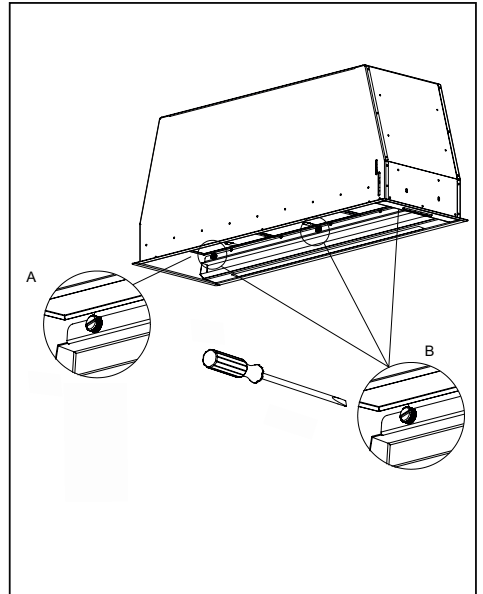
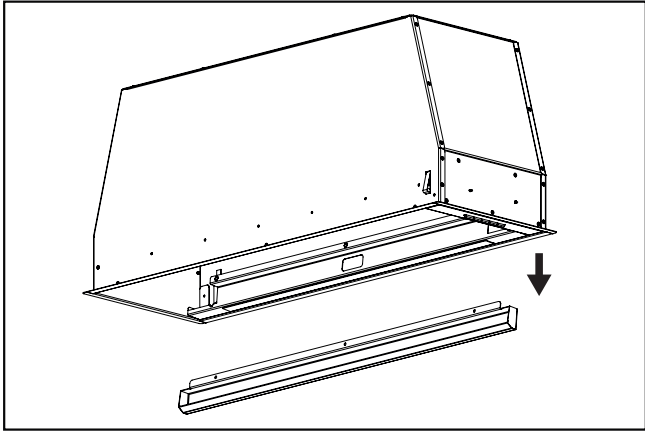

Fig.3
Fig.4
1. Unscrew the knobs (Fig.3) and remove the oil collection tray (Fig.4);